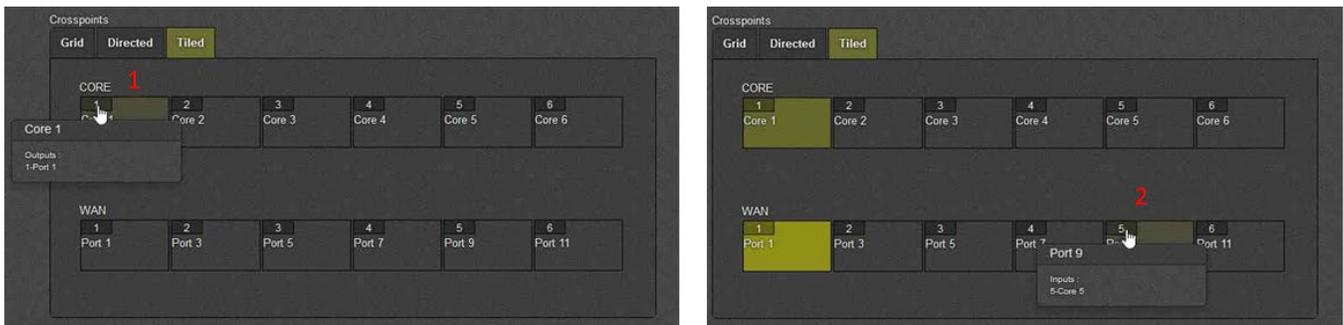

Figure 4-26 : WebEASY® - Link Aggregation\Tiled View\Linking in Tiled
The tiled view allows users to set routes by selecting a tile for a core and matching it to a tile for a port. To create a route, select a core (1) and then select the port you'd like to link it to (2), shown below in Figure 4-26.